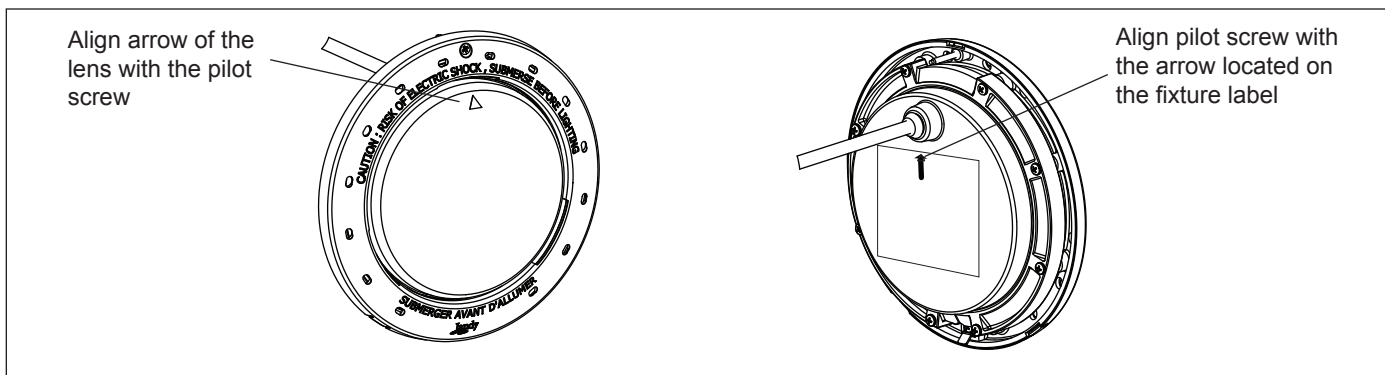

Figure 5. Alignment of the Lens, Face Ring, Housing and Clamps for Color Lights
- c. Position the lens and gasket on the fixture. Place the face ring assembly over the lens and align the pilot screw with the small arrow mark on the face of the lens. Note that the small arrow mark on the face of the lens and the pilot screw of the face ring must be aligned with the arrow located on fixture label that reads, "Arrow on this label must line up with the pilot screw on the Face Ring". See Figure 5.